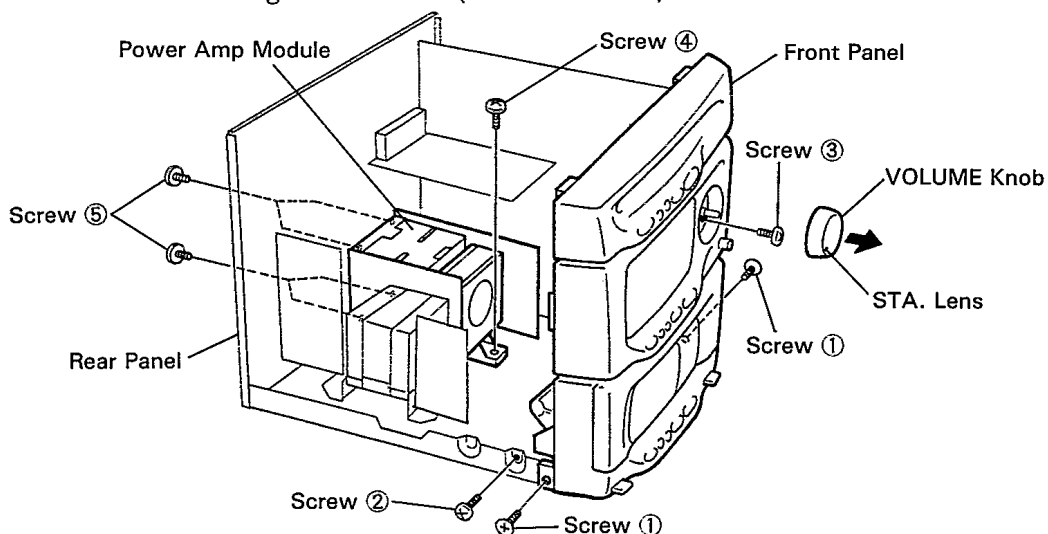

Fig. 2 Remove the Front panel and Power amp module
1. Remove the two screws ① from the rear panel side and the two screws ② from the front panel side.
2. Remove the VOLUME knob and the screw ③. (Refer to Fig. 2)
2. Remove the two screws ① and the screw ②. (Refer to Fig. 2)